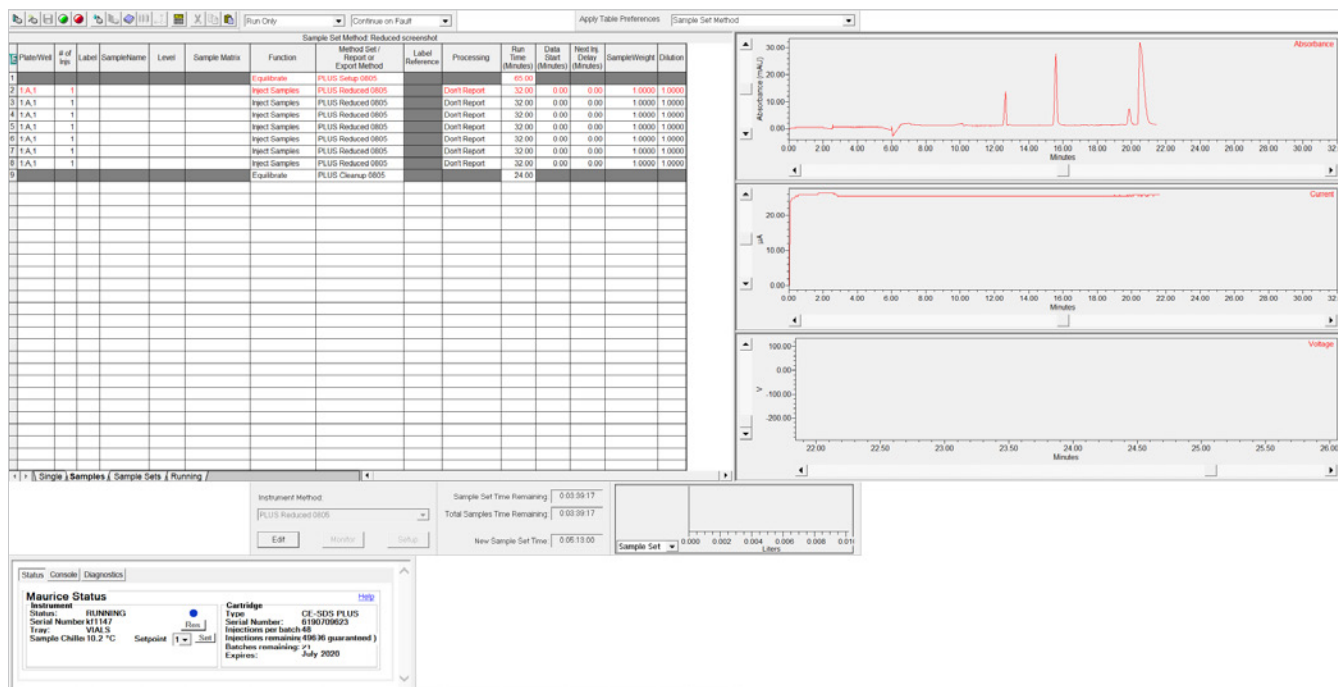

FIGURE 5. CE-SDS separation of the ProteinSimple IgG Standard monitored in real time using Empower® software.
1.0 mg/mL of reduced ProteinSimple IgG Standard was prepared as recommended by the ProteinSimple CE-SDS IgG Standard Product Insert and run as 10 replicates on an Empower® controlled Maurice and a Compass for iCE controlled Maurice. The samples were separated for 25 minutes at 5750 V and sample separations were monitored in real time in the Empower® “Run Samples” window (Figure 5).